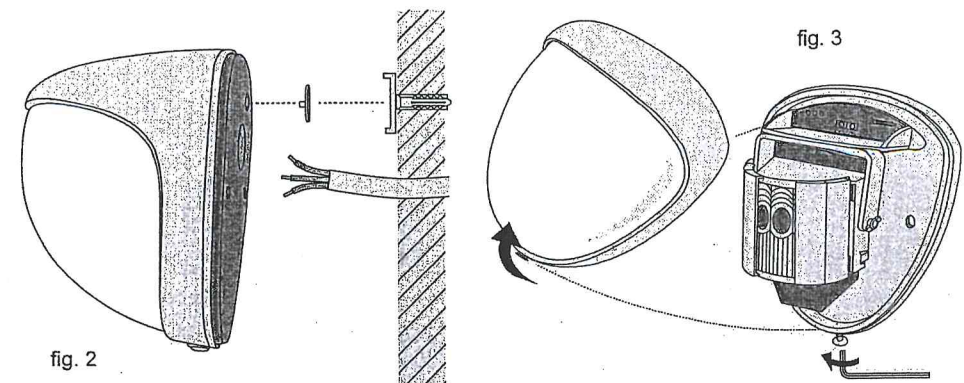
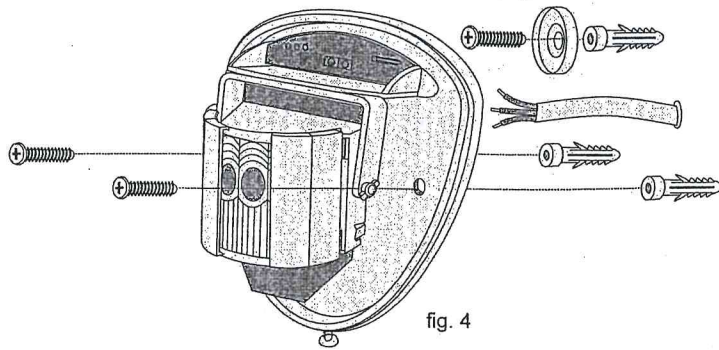

fig. 2
fig. 4
- 3) Feed standard 8 core alarm cable into the cable entry; bare the wires and connect to the removable terminal block as shown in fig. 7. Screw the unit to the wall ensuring that the tamper pin is correctly located and that the tamper microswitch is closed. **See fig. 4 and 5.** To aid installation, two spare tamper feet are provided. One is 1mm longer and the other is 2mm longer than the tamper foot originally fitted. The tamper foot is a push fit and can be removed by carefully pulling it from the pin. **See fig. 2.**